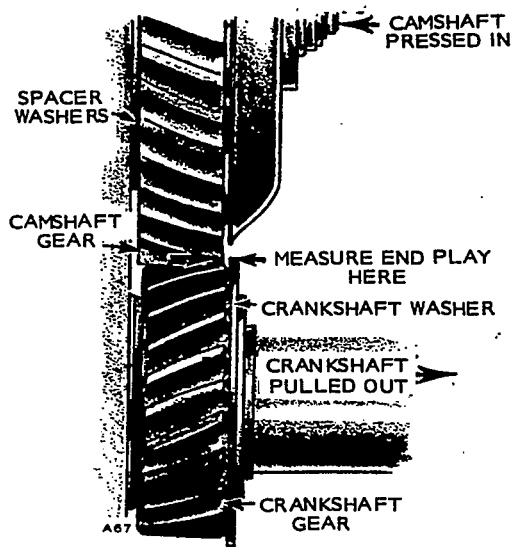

FIGURE 52. CAMSHAFT ENDPLAY
3. Slide thrust washer onto shaft. Measure camshaft end play; it should be 0.007 inch to 0.039 inch (0.178 to 0.991 mm). See Figure 52.